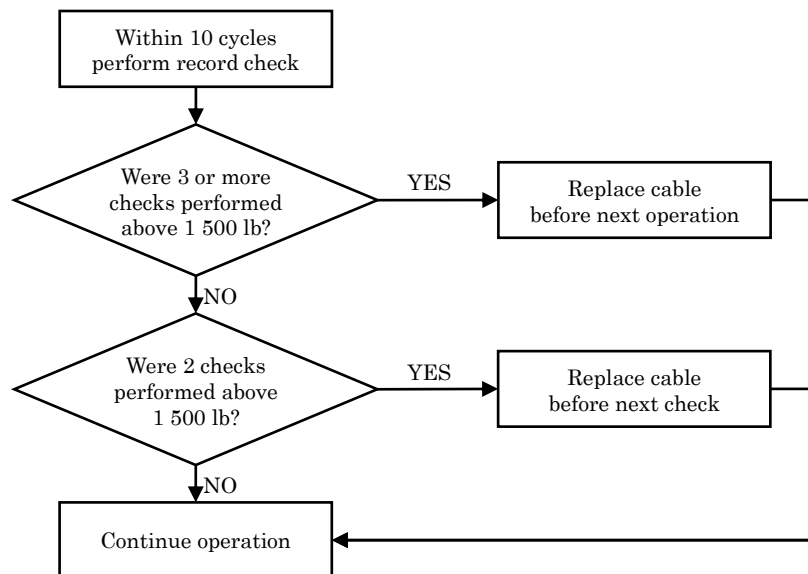

Figure 1
2.1 Within 10 hoist operating cycles after the effective date of this AD, accomplish a records check to determine whether, during any previous hoist load check/test, a cable was load-tested (average of 5 pulls) at 1 500 lb [680 kg] or more. If any cable is identified to have exceeded this limit during two or more hoist load checks/tests, replace the affected cable with a serviceable cable within the time interval shown in paragraph 2.1.1 or 2.1.2 of this AD. For replacement of a cable, see figure 1 of this AD.